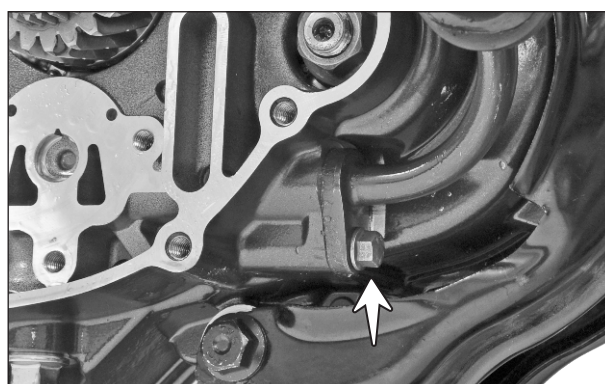

Fig. 3.123
- Remove the hexagonal flange bolt (M6x25 - 1 no.) from pipe complete inlet of engine oil cooler and dislocate the pipe complete inlet from the crank case assembly R. (Fig. 3.123)